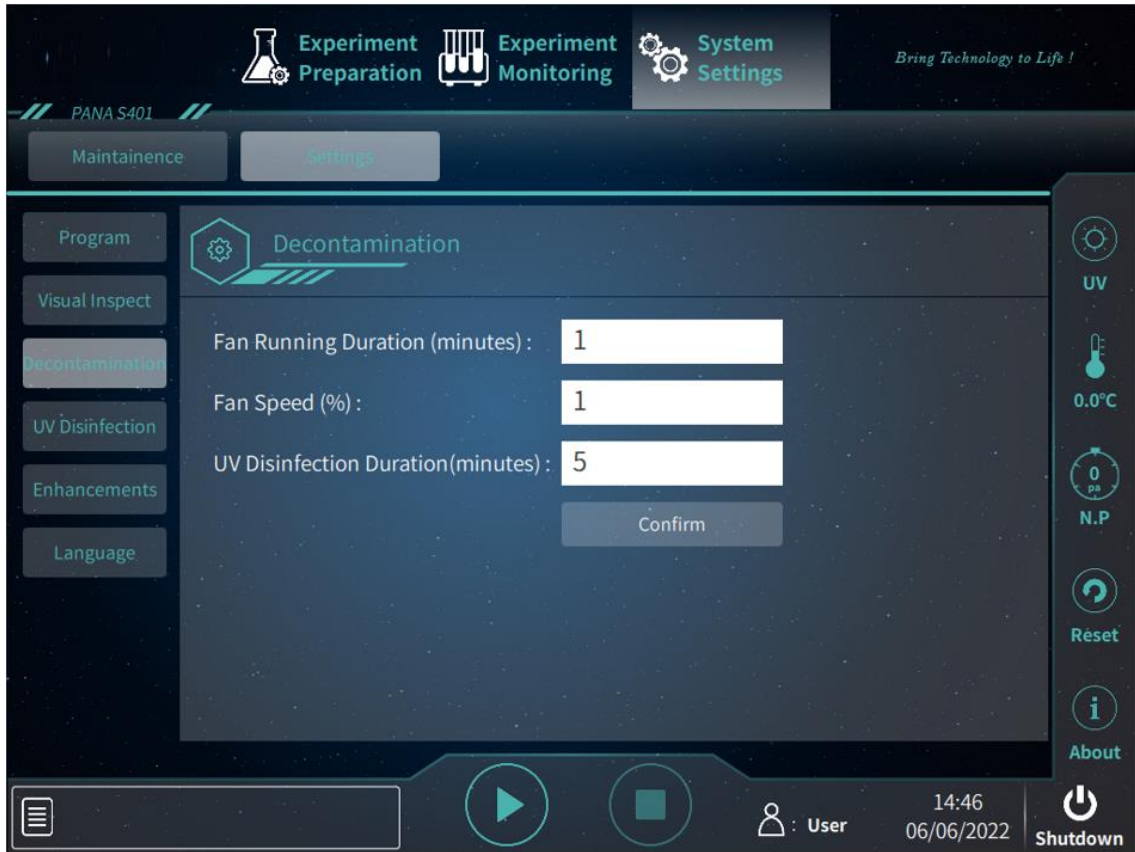

Figure 5-24. System Settings Interface – Settings Tab – Decontamination
- ▶ < **Decontamination** >: User could click this function key to set the decontamination parameters, including **Fan running Duration**, **Fan Speed** and **UV Disinfection Duration**, as shown in figure 5-24.